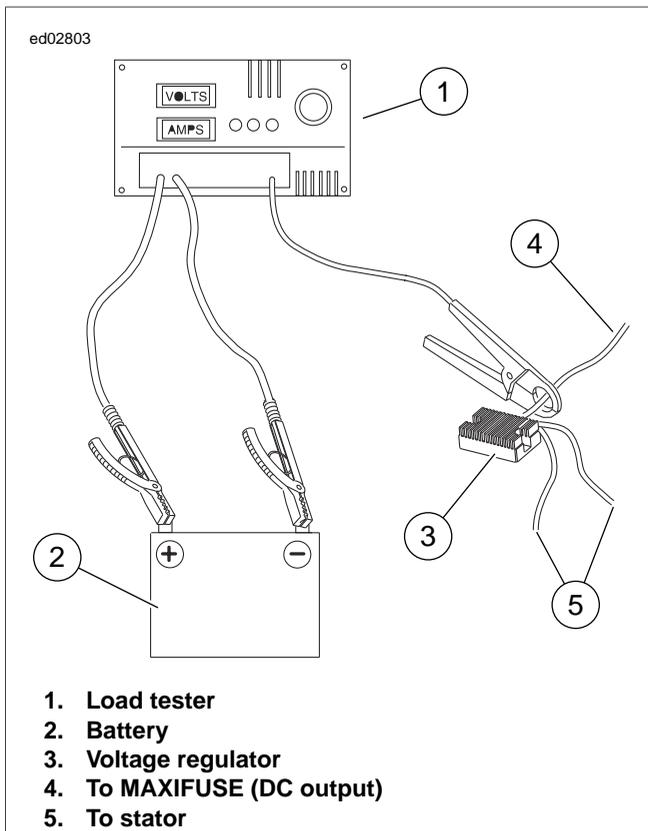

Figure 1-18. Current and Voltage Output Test
1. See Figure 1-18. Connect load tester.
4. See Figure 1-18. After removing the load, read the load tester voltage meter.